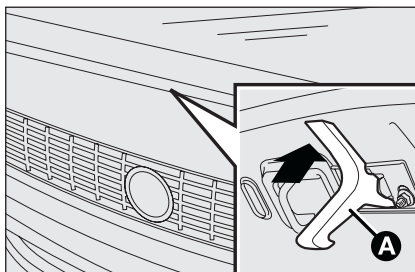

fig. 95
- ☐ operate lever **A-fig. 95** as shown in the figure;